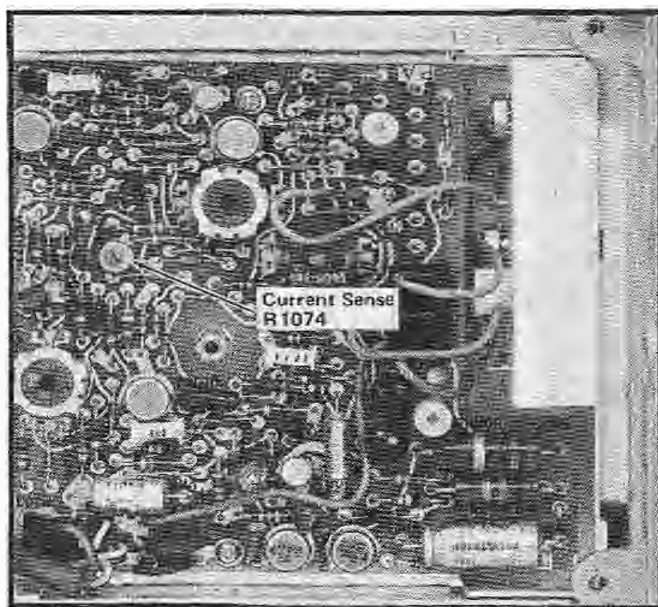

Fig. 5-3. Location of Current Sense adjustment R1070.
g. ADJUST—Current Sense adjustment R1074 (see Fig. 5-3) for peak to peak display amplitude of 4.4 divisions, ± 0.2 division (2.2 amperes, ± 0.1 ampere).
c. ADJUST—Current Sense adjustment R1074 (see Fig. 5-3) for 40 microseconds, \pm one microsecond time period between current peaks.